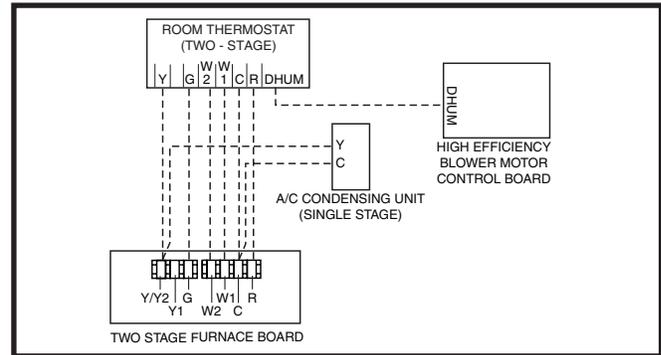
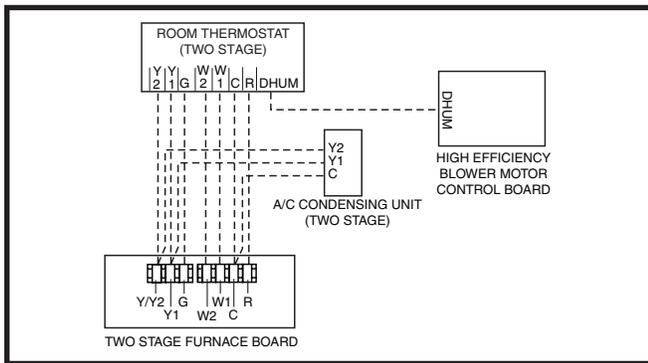

**Figure 20. Wiring Configuration 1**
**Figure 21. Wiring Configuration 2**
- Connect the thermostat's **W** output to the furnace control boards **W1** terminal. This allows the furnace to always run in low output mode. See Figure 20.
This option uses the full two stage heating capability of the furnace with a single stage outdoor unit. See Figure 21.
The Autostaging feature makes it possible to use a single stage thermostat and still receive some of the benefits of 2-stage furnace operation. If Autostage is enabled, the furnace will drop to **LOW** fire after initially starting in **HIGH** fire. After a period of 10 minutes, the furnace will then stage up to **HIGH** fire, until the heating load is met. See Figure 20 and the Low Voltage Connection section on page 23.
- ✓ Verify that all needed thermostat wires are securely connected to the correct leads on the terminal strip of the circuit board. See Figure 20 (page 24), Figure 21 (page 24), & Figure 22 (page 25).
The operating sequences for the heating, cooling, and fan modes are described below. Refer to the field and furnace wiring diagrams: Figure 19 (page 24), Figure 20 (page 24), Figure 21 (page 24), Figure 22 (page 25) & Figure 30 (page 39), Figure 31 (page 40), Figure 32 (page 41), & Figure 33 (page 42).